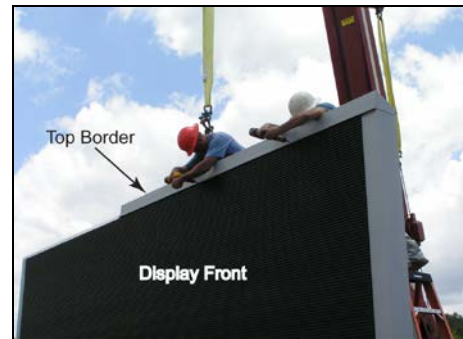

Figure 3: Fastening Top Border
6. After removing the shipping braces, lay the top border on the top section and fasten the border with Tek screws. Refer to **Figure 3**.